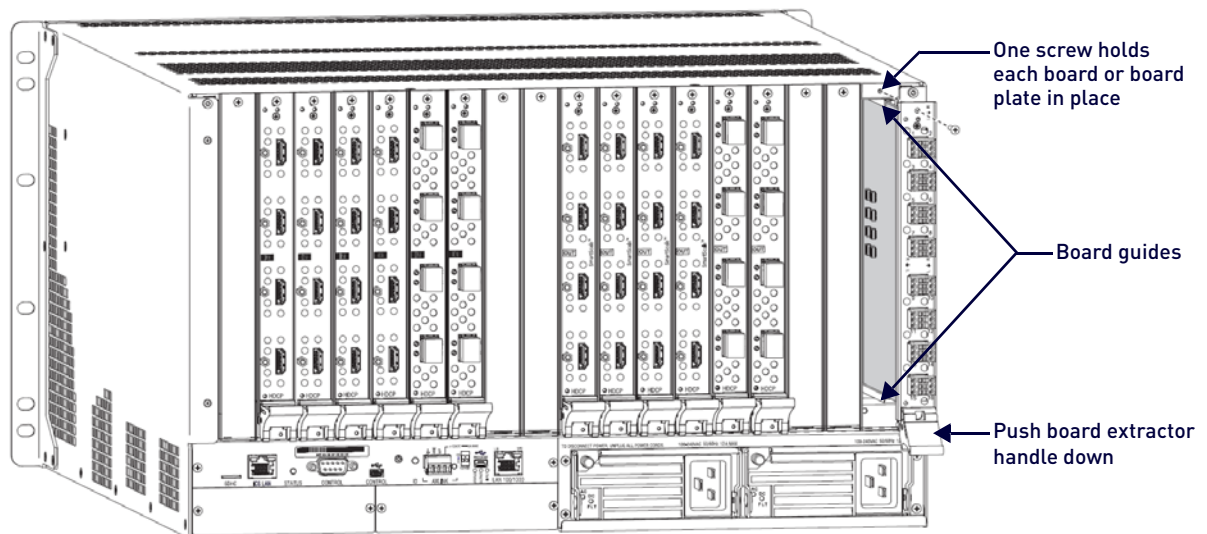

FIG. 90 Remove screw, push board extractor handle down, then pull board straight out (Enova DGX 3200 shown)
4. Push on the board's extractor handle as far as it will go (about a 45° angle). With the handle extended, carefully pull the board straight out of the expansion slot (FIG. 90):